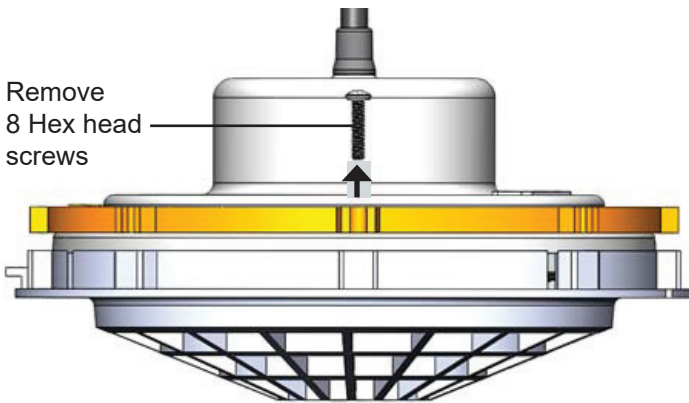

Figure 7.
4. Using a 1/4" Hex head driver, remove all of the eight (8) hex head screws. Remove the Clamp ring and from the light housing. See Figure 7.